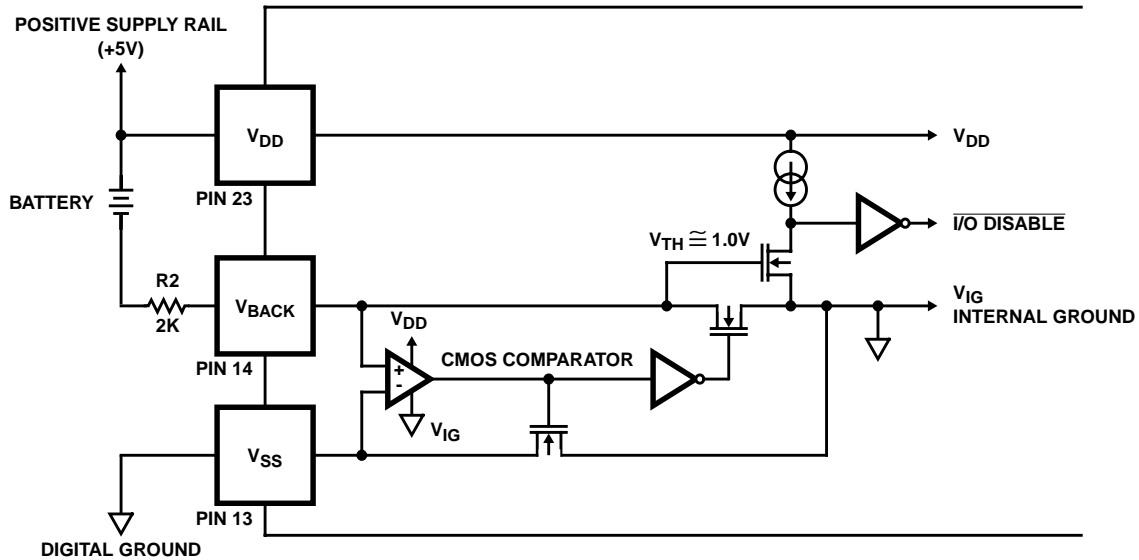

FIGURE 6. SIMPLIFIED ICM7170 BATTERY BACKUP CIRCUIT
The ICM7170 contains an on-chip power down detector that eliminates the need for external components to support the battery-backup switchover function, as shown in Figure 6. Whenever the voltage from the V_{SS} pin to the V_{BACKUP} pin is less than approximately 1.0V (the V_{TH} of the N-channel MOSFET), the data bus I/O buffers in the ICM7170 are automatically disabled and the chip cannot be read or written to. This prevents random data from the microprocessor being written to the clock registers as the power supply is going down.
The new load configuration (Figure 6) allows these two conditions to be met independently. The two load capacitors, C1 and C2, provide a fixed load to the oscillator and crystal. C3 adjusts the frequency that the circuit resonates at by reducing the effective value of the crystal's motional capacitance, C0. This minute adjustment does not appreciably change the load of the overall system, therefore, stability is no longer affected by tuning. Typical values for these capacitors are shown in Table 5. C1 and C2 must always be greater than twice the crystal's recommended load capacitance in order for C3 to be able to trim the frequency. Some experimentation may be necessary to determine the ideal values of C1 and C2 for a particular crystal.
- 4. EXTERNAL BATTERY BACKUP** - The ICM7170 may be placed on the same power supply as battery-backed up RAM by keeping the ICM7170 in its operational state and having an external circuit switch between system and backup power for the ICM7170 and the RAM. In this case V_{BACKUP} should be pulled up to V_{DD} through a 2K resistor. Although the ICM7170 is always "on" in this configuration, its current consumption will typically be less than a microamp greater than that of standby operation at the same supply voltage (See Note 9). Proper consideration must be given to disabling the ICM7170s and the RAMs I/O before system power is removed. This is important because many microprocessors can generate spurious write signals when their supply falls below their specified operating voltage limits. NANDing \overline{CS} (or \overline{WR}) with a $POWERGOOD$ signal will create a \overline{CS} (or \overline{WR}) that is only valid when system power is within specifications. The $POWERGOOD$ signal should be generated by an accurate supply monitor such as the ICL7665 under/over voltage detector. An alternate method of disabling the ICM7170's I/O is to pull V_{BACKUP} down to under a volt above V_{SS} ($V_{SS} < V_{BACKUP} < 1.0V$). This will cause the ICM7170 to internally disable all I/O. Do not allow V_{BACKUP} to equal V_{SS} , since this could cause oscillation of the battery backup comparator (See Figure 6). $V_{BACKUP} = V_{SS} + 0.5V$ will disable the I/O and provide enough overdrive for the comparator.